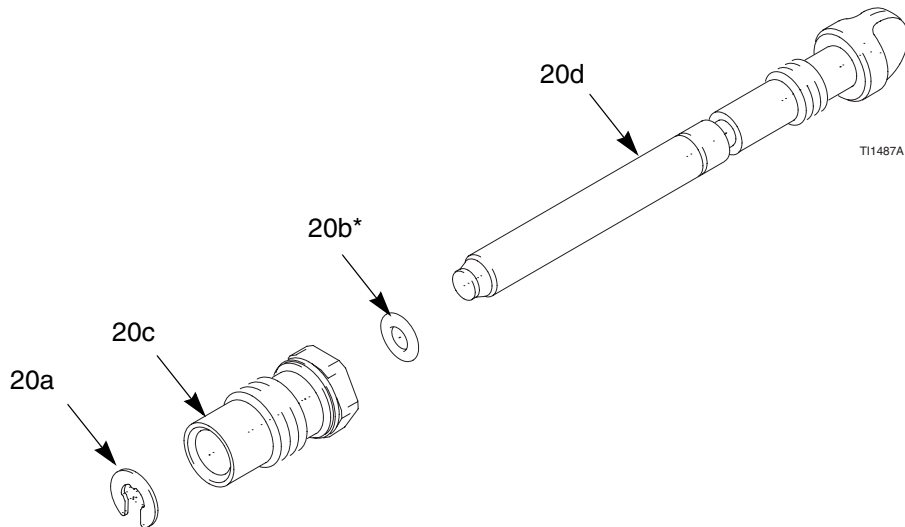

Fig. 16. Fan Air Adjustment Valve
2. Place a wrench on the flats of the valve assembly (20) and unscrew it from the handle (17). You may replace the valve as an assembly (go to step 9) or as individual parts (steps 3-9).
3. Remove the retaining ring (20a). See FIG. 16.
7. When reassembling the fan air valve (20), lightly lubricate the valve threads and screw the stem (20d) fully into the housing (20c) until bottomed. Install the o-ring (20b*), lubricate, and unscrew the valve stem until the o-ring enters the housing.
9. Screw the valve assembly (20) into the gun handle, using a wrench on the flats of the housing. Torque to 15-25 in-lb (1.7-2.8 N•m).